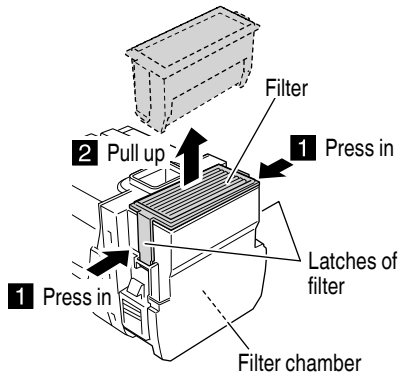

Fig. 15
- (3) Press in the 2 latches on the sides of the filter cover, then pull up and remove the filter set. (Fig. 15)